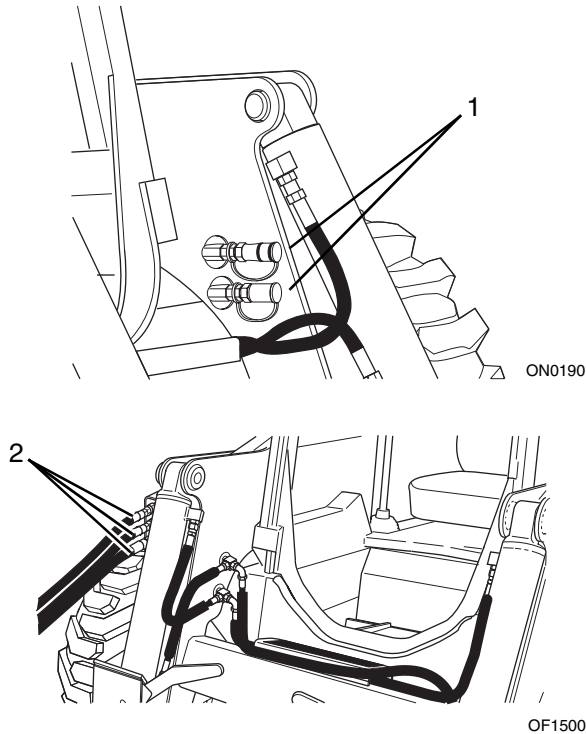

Figure 9-3 Hydraulic Couplers
If the attachment requires a hydraulic connection, the auxiliary couplers (Fig. 9-3, 1) are on the left side of the vehicle and the high flow couplers are on the right side (2).
2. Disconnect the attachment hydraulic couplers from the vehicles hydraulic system (Fig. 9-3, 1 and/or 2) if necessary. Reinstall the protective caps onto all couplers to prevent dirt and debris from entering the hydraulic system of the vehicle and attachment.